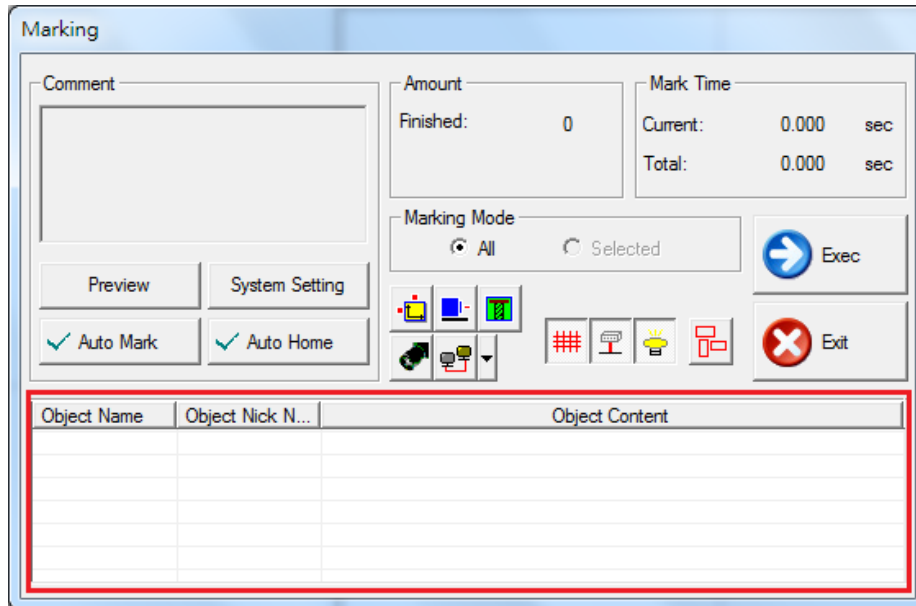

Fig. 1.6.01
Mark the selected objects and adjust the marking related settings, see Fig.1.6.01.
**Show Object List:** Enable this function, all object's names and contents will be displayed in the red frame of "Marking" dialogue like Fig.1.6.01 shows.